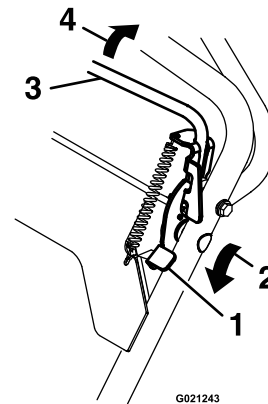

Figure 13
2. Push and hold the blade-control lock forward to release the blade-control bail (Figure 13).